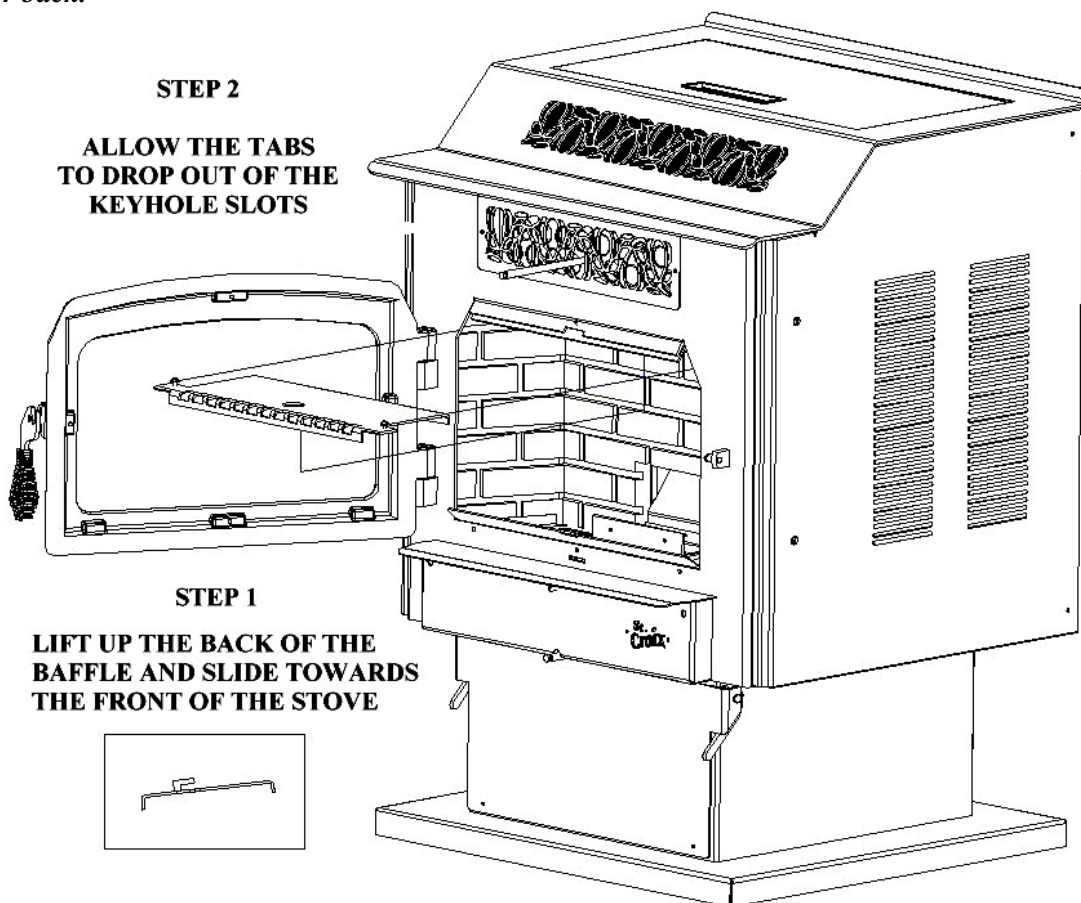

Figure 8
2. The Prescott models have 3 Exhaust Cleanout/Ash Trap covers, 2 of which are located below the rear brick panel and a 3rd Clean Out is located behind the Ash Pan. Remove covers and clean regularly. (See stoves shown in Figure 8) Be sure to clean both sides.
To remove the baffle (See Figure 8), lift the back of the baffle up to clear the inner back of the stove and slide towards the front of the stove. The baffle will slide out of the keyhole slots and drop down. *When putting the baffle back in the stove, make sure the screws are in the keyhole slots and the back of the baffle is lifted up over the inner back.*